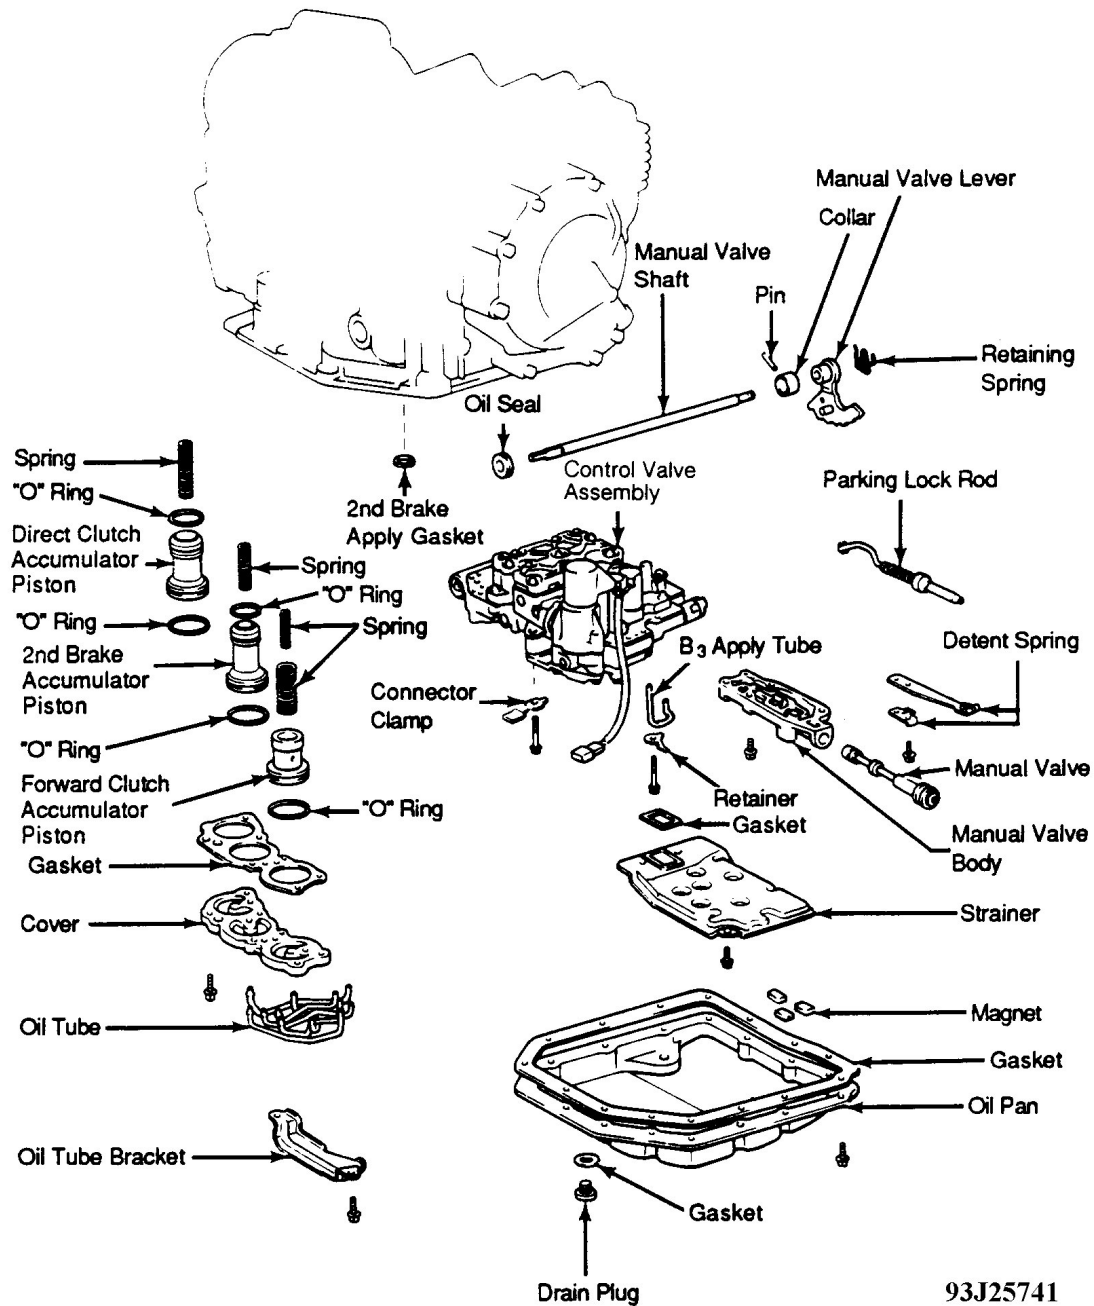

Fig. 12: Exploded View Of Lower External Components (A-540E & A-540H Shown; A-241H Is Similar)
4. On all models, remove oil pan bolts and oil pan. See Fig. 12 . Place transaxle on wooden blocks to prevent damage to pipe bracket. Examine particles found in oil pan. If particles are magnetic (steel), bearing, gear and clutch plate wear are indicated. If particles are non-magnetic (brass), bushing wear is indicated.
24. Remove oil galley cover and gasket. Remove underdrive brake accumulator piston and spring. See **Fig. 12** and **Fig. 13** . Using Puller (09308-00010), remove bearing from housing. Remove apply gasket from transaxle housing.